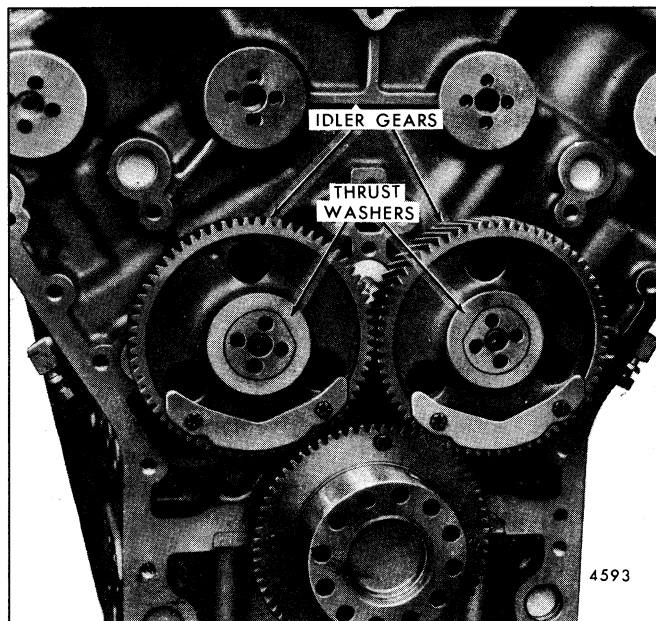

Fig. 6 - Front Gear Train Idler Gears
2. Fabricate two (2) aligning studs from two (2) 1/2^M-13 x 4-3/4" bolts (cut off the heads of the bolts). Place the aligning studs through the hubs and thread them into the block. Tighten the center bolts to 80-90 lb—ft (108-122 N·m) torque (Fig. 6).